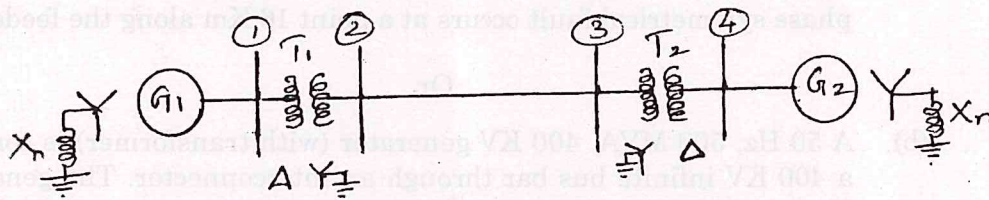

Fig. 14(a)
14. (a) A single line to ground fault occurs at bus 4 of the system shown in Fig. 14(a). (i) Draw the equivalent networks (ii) Compute fault current.